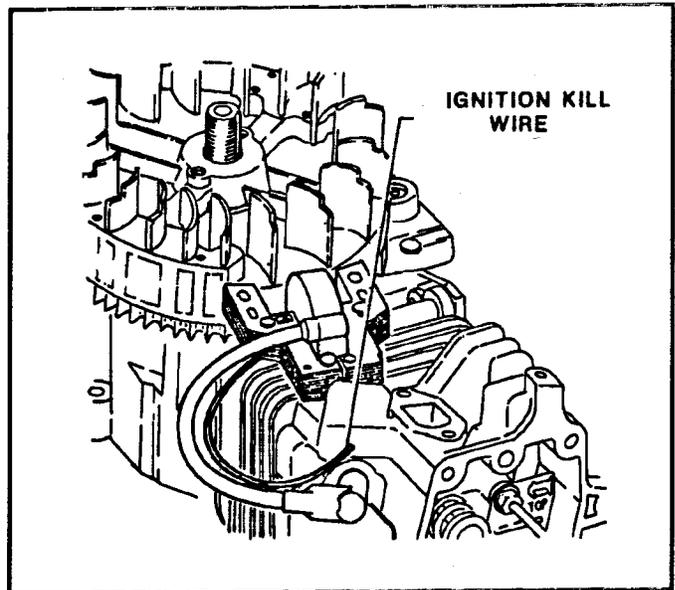

Figure 46
3. Remove the two 5/16" hex head screws retaining the ignition coil. The coil may now be lifted away from the engine. See Figure 46.